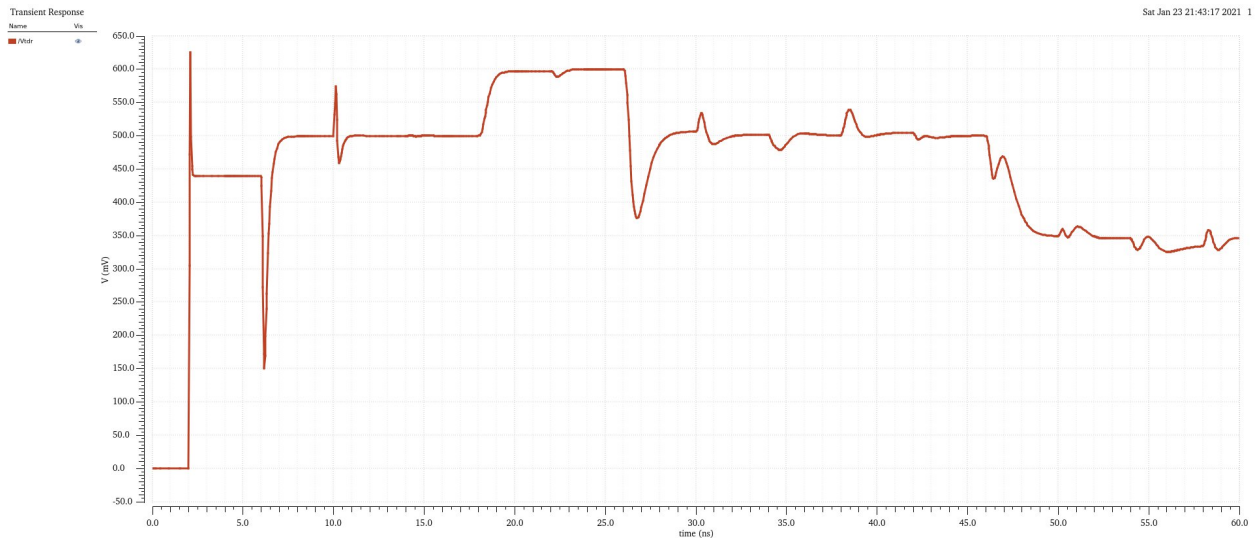

Figure 13 TDR Response
4. Please develop a model circuit composed of ideal transmission lines, inductors, resistors, and capacitors which generates the same response as Figure 13. The input rise time is 0.1ns. Please show your model circuits and Cadence simulation result.